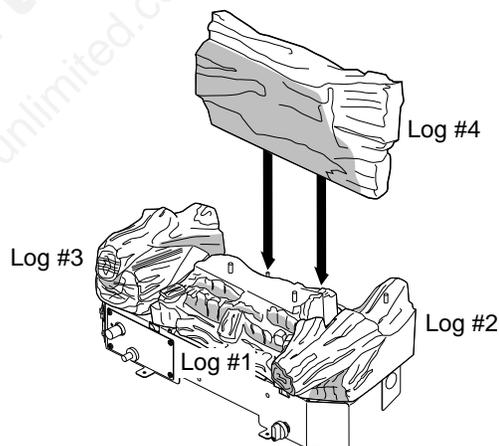

Figure 25 - Installing Log #4 (Model VRL30NR Shown)
4. Place log #4 onto two alignment screws to rear of base (see Figure 25).